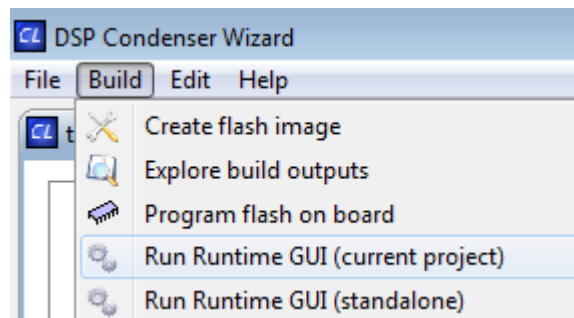

Figure 9-4. Run Runtime GUI
5. Select "Run Runtime GUI (current project)" as shown in Figure 9-4.